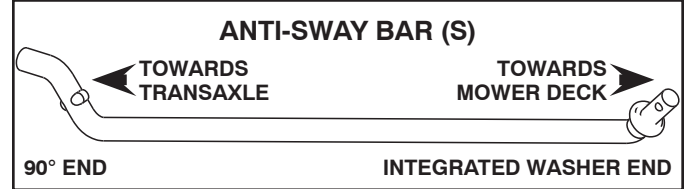

Fig. 27
5. INSTALL ANTI-SWAY BAR (S) (IF EQUIPPED) (See Fig. 27 - 29)